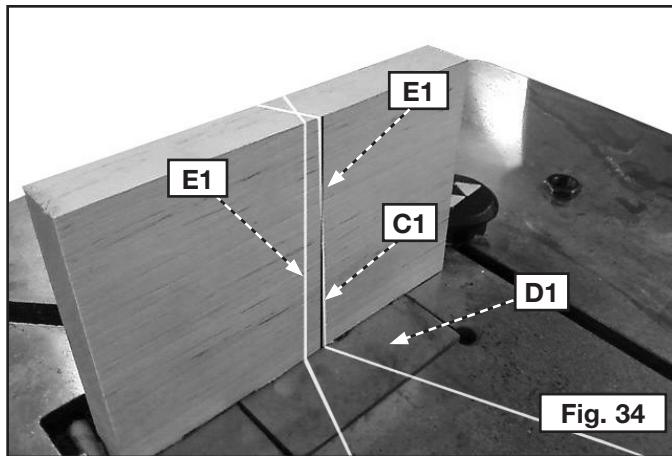

Fig. 34
1. Using a carpenter's square or similar device, draw a straight line (C1) Fig. 34 on a scrap board.
2. Place board on its edge as shown in Fig. 34 with line facing back of drill press. Make sure the board is placed over the middle of the table insert (D1) Fig. 34, as shown.
3. Turn laser on so the red lines are shining on board as shown. Check to see if both red lines (E1) Fig. 34 are parallel with the line (C1) you drew.